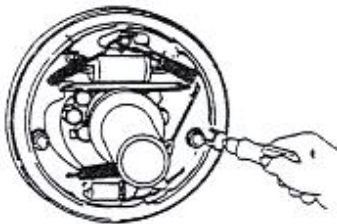

Figure 2-11
- (1) Remove the support pin, regulating bar, regulating device and spring on the auxiliary brake shoe. See figure 2-11